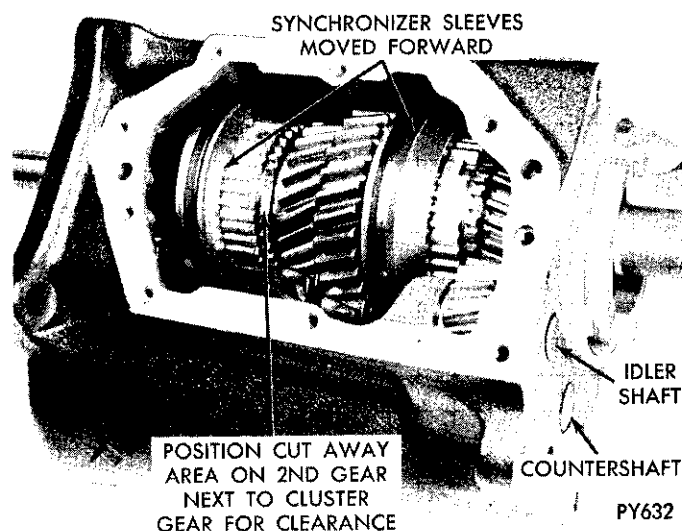

Fig. 6—Position 2nd Gear and Shift Sleeves for Clearance
(4) Rotate cut away part of second gear next to countershaft gear for mainshaft removal clearance (Fig. 6).
(5) Also shift 2nd-3rd synchronizer sleeve forward for the same reason.